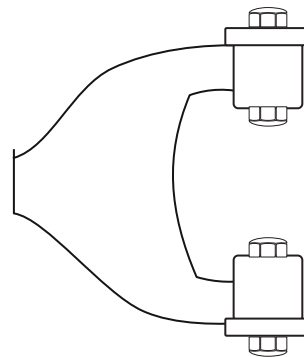

Figure 1
3. Fit the polyurethane part into the arm from the outside face of the arm so that the smaller diameters of the bushes will be facing each other from the front and rear position (Figure 1).